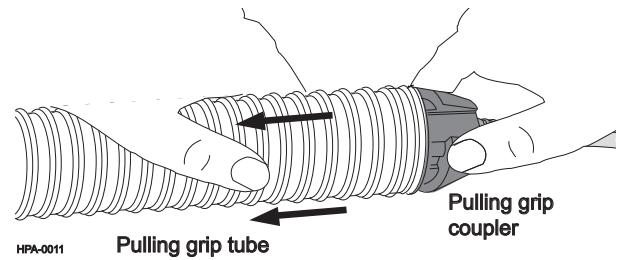

Figure 12
Step 4: With the grip lying on a work surface, grasp the coupler at the cable-end of the trunk cable. With a slight twisting motion, pull the corrugated tube away from the coupler with your other hand (Figure 12).